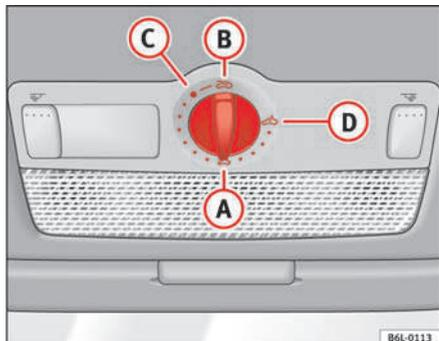

Fig. 53 Roof lining
- Turn the rotary button to position **(A)** ⇒ fig. 53 ⇒